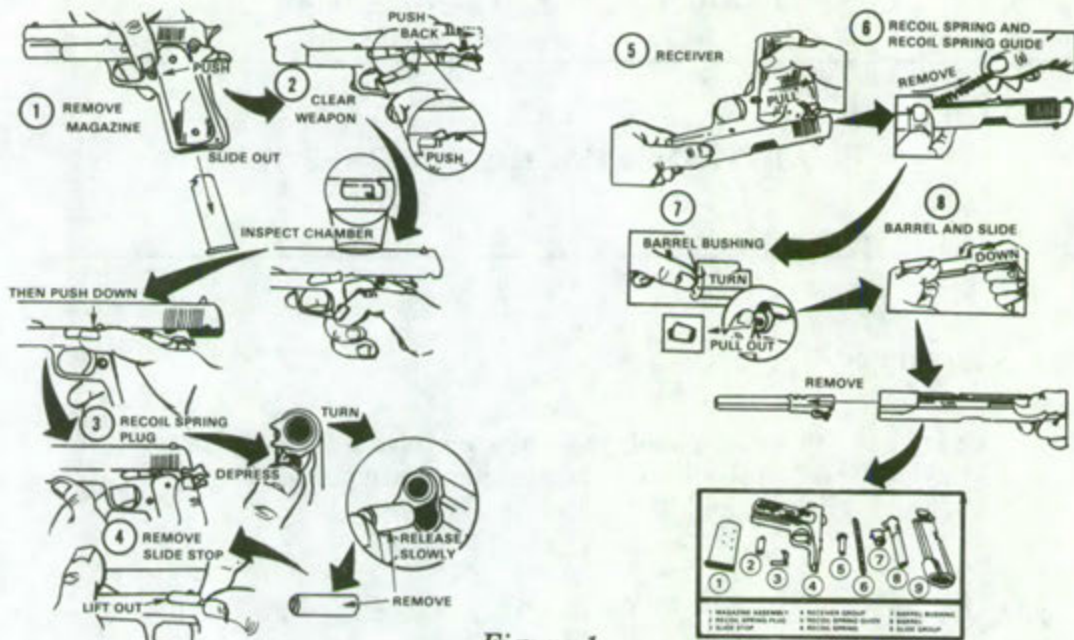

Figure 1.
2. **Disassembly** (figure 1).